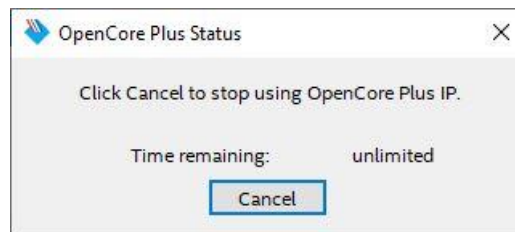

Figure 3-3 OpenCore Plus Status
- 6) When configuration is completed, Quartus will show popup message of OpenCore Plus as shown in Figure 3-3. Please do not press cancel button, because NiosII in tCAMIP will stop running.